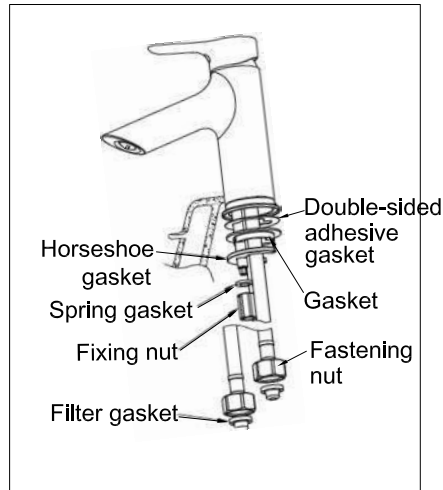

Fig. 1 (Main body of faucets installation)
(1) As shown in Figure 1, remove the fixing nut, spring gasket, horseshoe gasket at the lower part of the body.